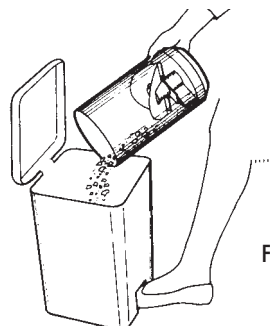

Figure 12d
8. Turn the Collection Bin upside down over a trash can. Make sure you empty all dirt and debris from above and below the Dirt Arrestor. To ensure that all the dirt spills out, tap the side of the Collection Bin gently against the edge of the trash can. (See Figure 12d.) Wipe away any debris attached to the Mesh Shroud or the Web attached to the Shaft.